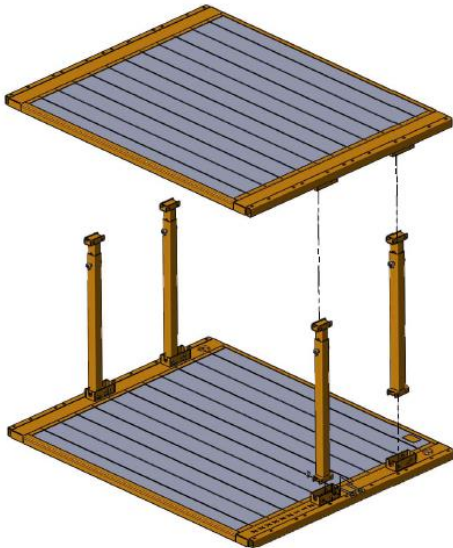

FIGURE 1
- 4.3 After that, lower the second panel onto the spreaders already pinned into the panel laying on the ground (FIG. 1). Insert pins and keepers where needed.